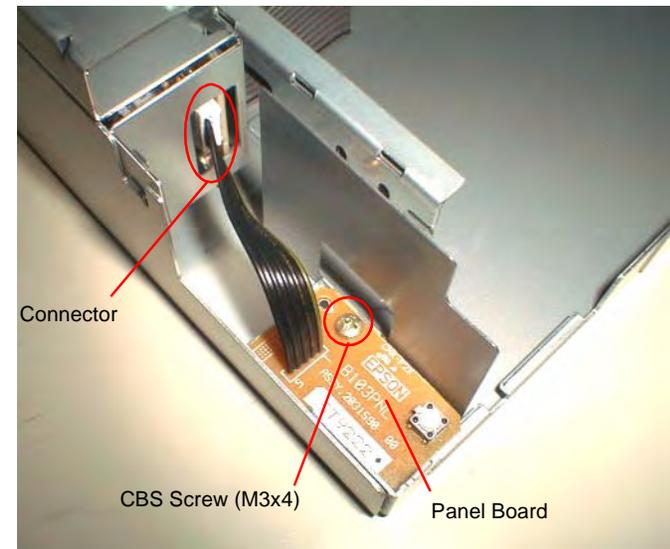

Figure 4-30. Panel Board Removal
4. Release the locking connector (pull and release) for the Panel Board, and then disconnect the cable from the Power Supply Board. (Refer to Figure 4-30.)